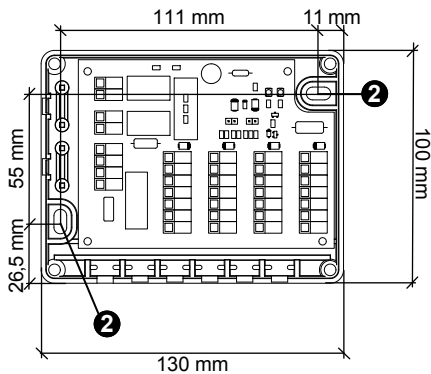

Fig. 2: Internal view and components.
- Fix the device base to the wall by using the two screw holes labelled ② in Fig. 2.